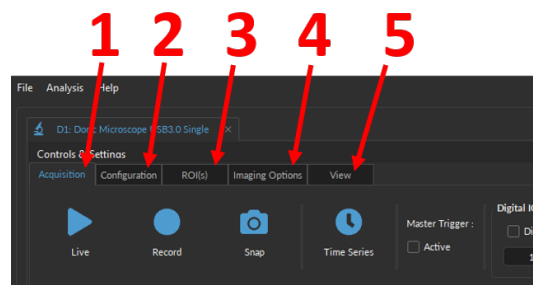

Figure 5.10: Microscope Module Interface - Controls & Settings
The controls & Setting are divided in 5 parts (Fig. 5.10): **Acquisition** (1), **Configuration** (2), **ROI(s)** (3), **Imaging Options** (4), and **View** (5), each ones of them will be explore in next subsections.